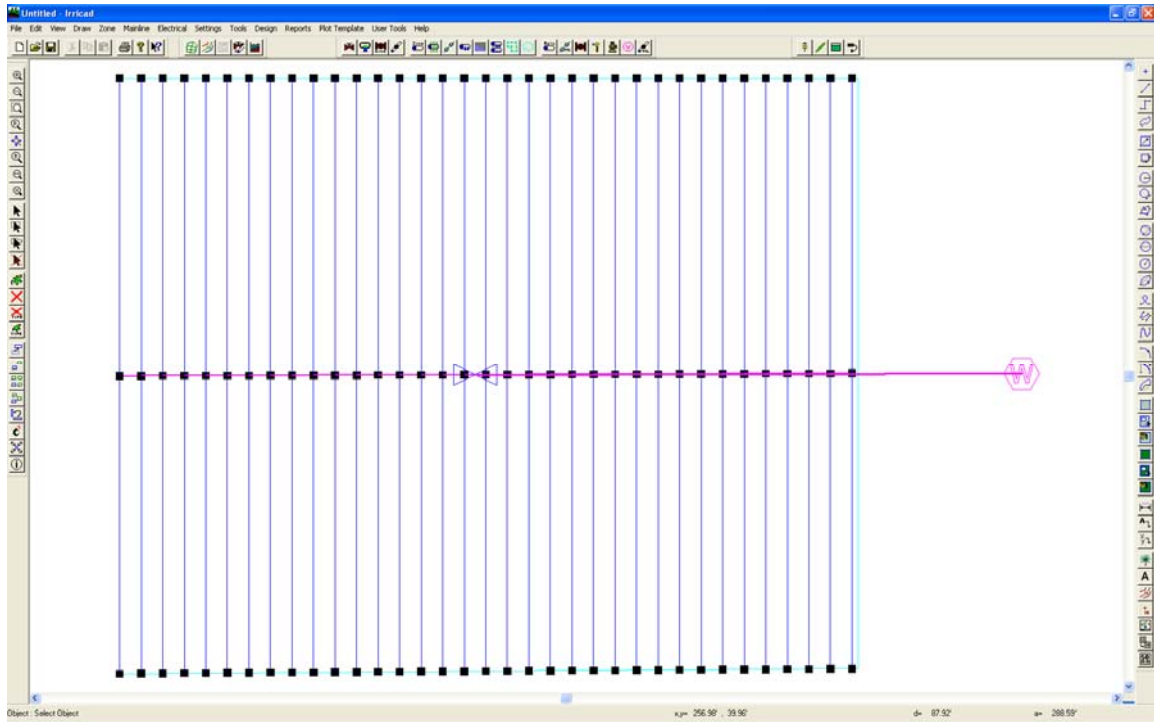

Figure AD 3
7. Now select *Mainline|Pipe*. Leave the pipe as **Computer Selected** and the "Depth" as **0**. Click **[OK]**. Connect the mainline pipe to the control valve with a left-click and draw towards the right for approximately **150ft (50m)**. Left-click to place and then *Right-click|Restart*. Select *Mainline|Water Supply* and place on the end of the mainline pipe with a left-click as in Figure AD 3. Leave the Water supply details as the defaults; simply click **[OK]**. Now select *View|Zoom All*.